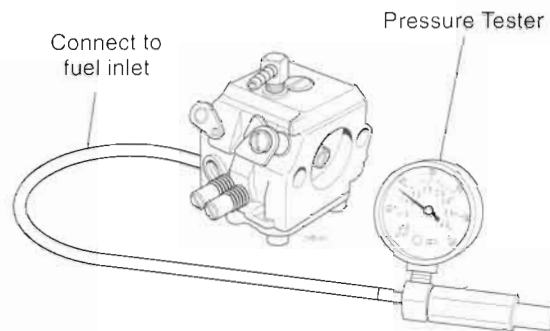

Figure 3.27 Test for Pop-off and Reseat Pressure
- Pressure test the assembled carburetor for pop-off and reseal values (Figure 3.27). Any carburetor that fails to reseal and hold a pressure of at least 10 psi must be disassembled and inspected for an incorrectly adjusted, dirty, sticking, or otherwise defective metering valve.